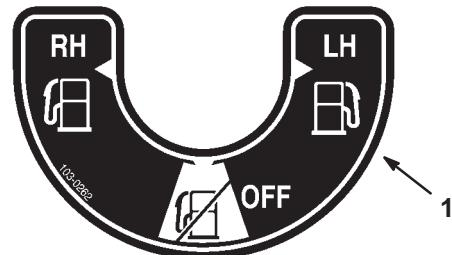

Figure 1
2. Close the fuel shut-off valve (Fig. 1).